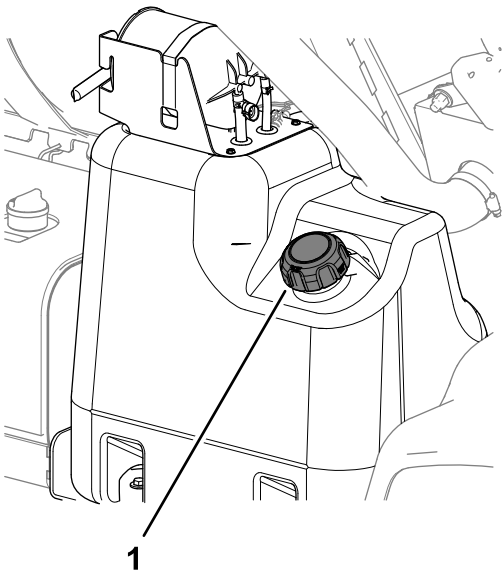

Figure 63
2. Clean the area around the fuel-tank cap (Figure 63).